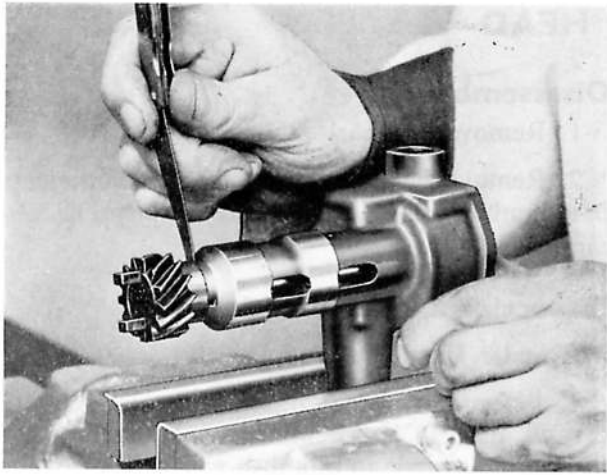

Fig. A.26. Checking the end float between the drive gear and pump body
3. Before peening the gear rivet, check that the driving spindle end float (Fig. A.26) is within the specified limits.